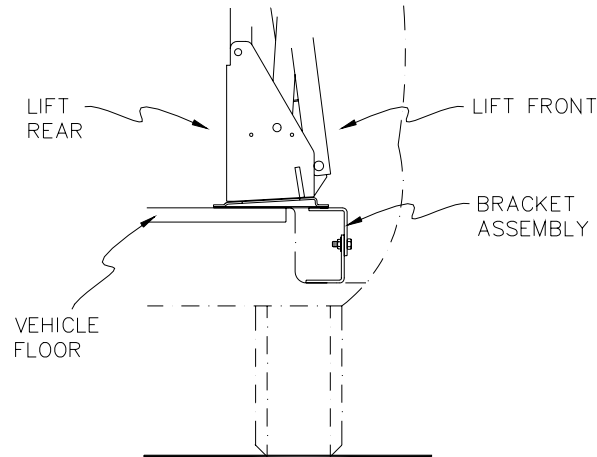

FIGURE 2-4: BRACKET ASSEMBLY
- d. Refer to **Figure 2-4**. With doors fully open, position lift in vehicle doorway so that back of lift is supported by vehicle floor, and front of lift is supported by both bracket assemblies.